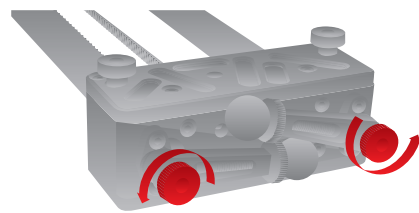
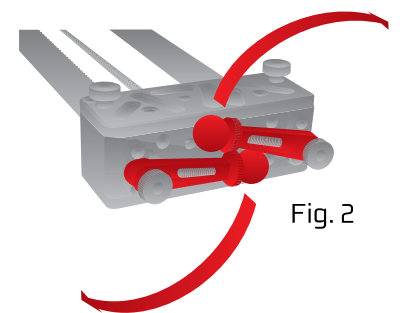

Fig. 1
Fig. 2
To change the angle, (1) loosen the thumbscrew (Fig. 1), (2) adjust the angle (Fig. 2), and (3) tighten the thumbscrew to lock down the new position.